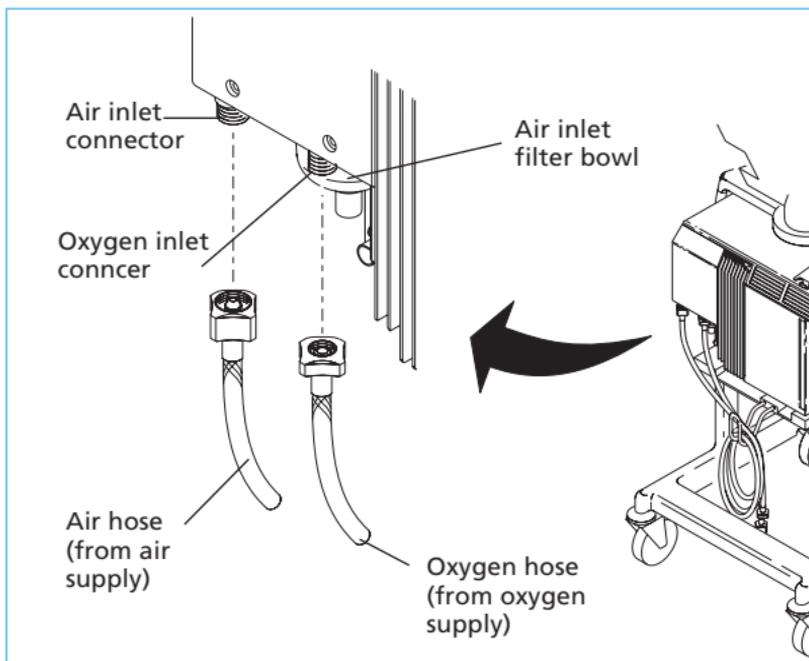

FIGURE 3.
- ⇒ Connect air and oxygen supplies to the ventilator (see Figure 3). The ventilator can use air and oxygen from cylinder or wall supplies. Supply pressures must be 35 to 100 psi (241 to 690 kPa).